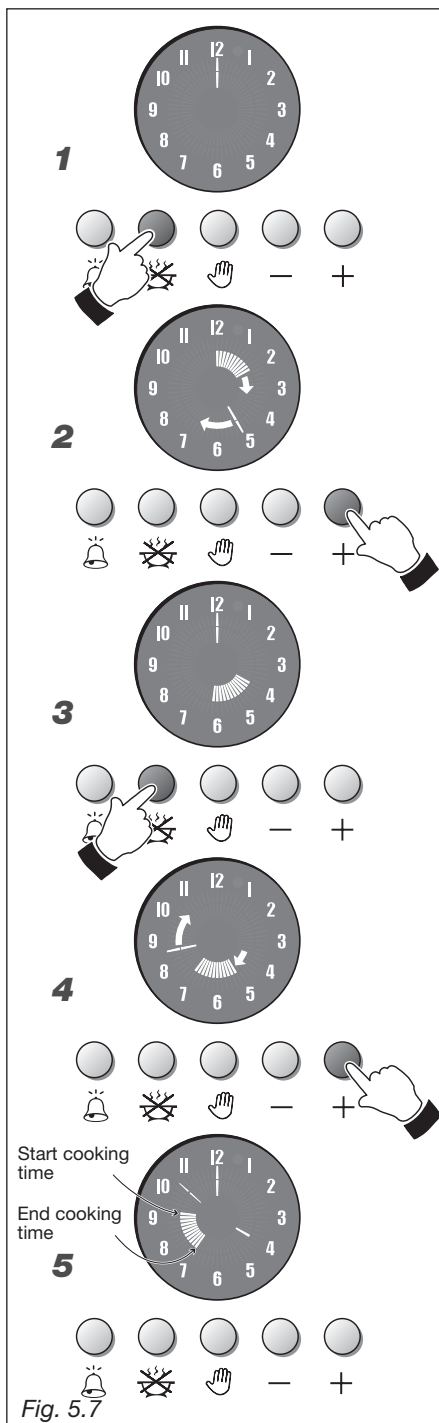

Fig. 5.7
AUTOMATIC COOKING (fig. 5.7)
1. Fig. 5.7 - To set the cooking time (max 6 hours) press button , the electronic clock luminous hands go out and a luminous hand lights up on number 12.
2. Fig. 5.7 - Within 7 seconds press \oplus button and another luminous hand (like seconds and minutes) lights up on the display. Every increasing (additional inner hand) indicates one minute. Moreover every increasing of the 12 minutes is indicated by an inner luminous hand (5 luminous hands indicate one hour). To decrease the required time press \ominus button.
3. Fig. 5.7 - Within 7 seconds press another time  button; the inner luminous hands turn automatically on the time of the day.
4. Fig. 5.7 - Within 7 seconds press \oplus button and position (by pressing the button) the inner luminous hands on the hour when the oven has to start the cooking program. Press button \ominus to decrease.
5. Fig. 5.7 - After 7 seconds the clock luminous hands appear again on the display and the inner luminous hands indicate the programmed cooking time.